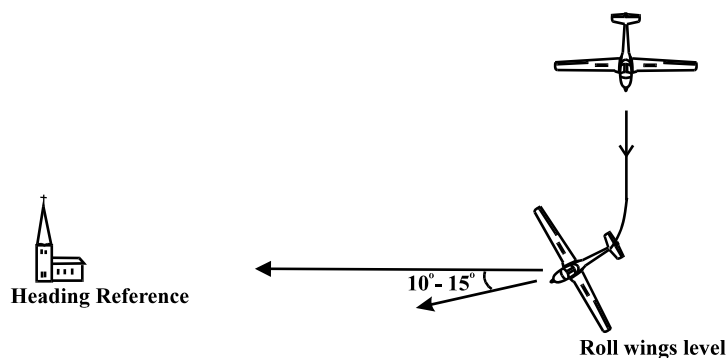

Fig 8. Rolling out onto a selected feature.
- a. Approximately $10-15^\circ$ before the selected heading is achieved look ahead. (See Fig 8).